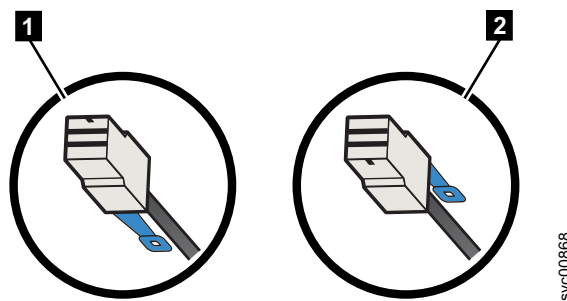

Figure 114. SAS cable connector orientation
- For Storwize V7000 Gen2 or Storwize V7000 Gen2+ control enclosures, and 2145-24F or 2145-12F expansion enclosures, the blue pull tab must be below the cable (**1** in Figure 114).
- For 2076-92F enclosures, the blue pull tab must be above the connector (**2** in Figure 114).